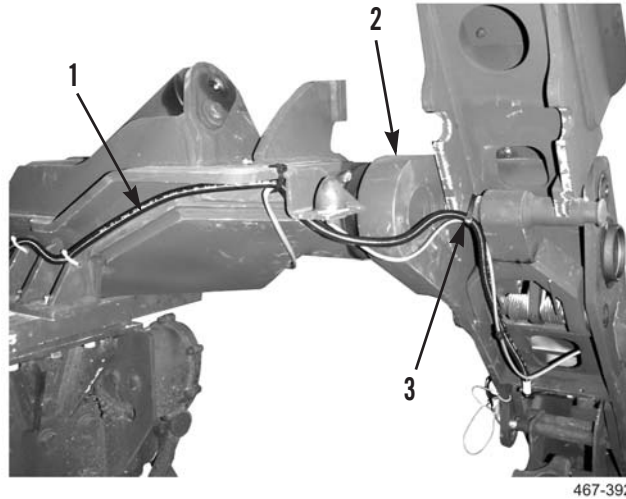

Figure 2. Twistlock Sensor Harness Removal.
2. Remove and discard tiedown straps (Figure 2, Item 3) as required.
3. Remove twistlock sensor harness (Figure 2, Item 1) from slider assembly (Figure 2, Item 2).